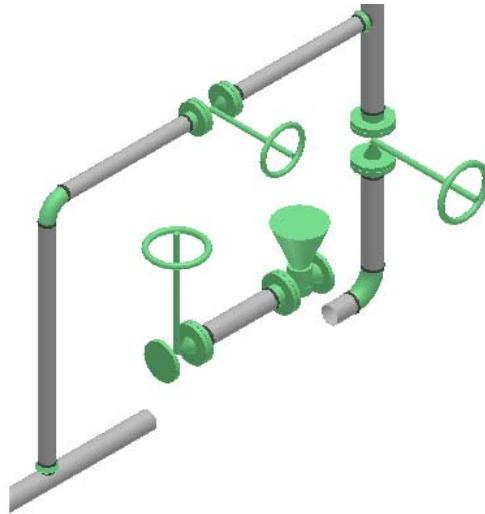

Figure 23: Selected Features After Moving to a New Position
11. Click in the graphic view to accept the position of the moved features, as shown in Figure 23.